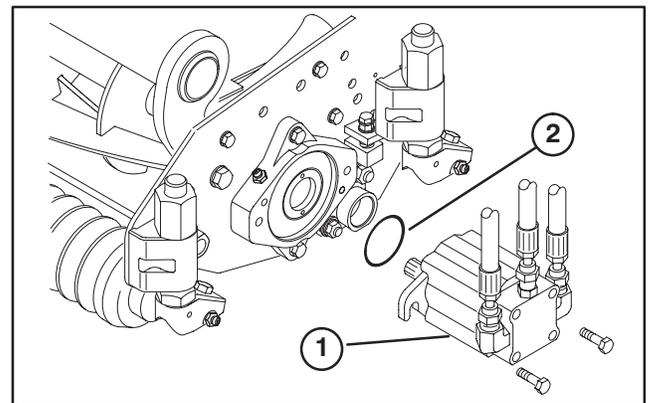

Figure 8
3. Cutting unit stabilizer ear (2)
- Mount the motor to the drive end of the cutting unit and secure with two capscrews provided (Fig. 8).